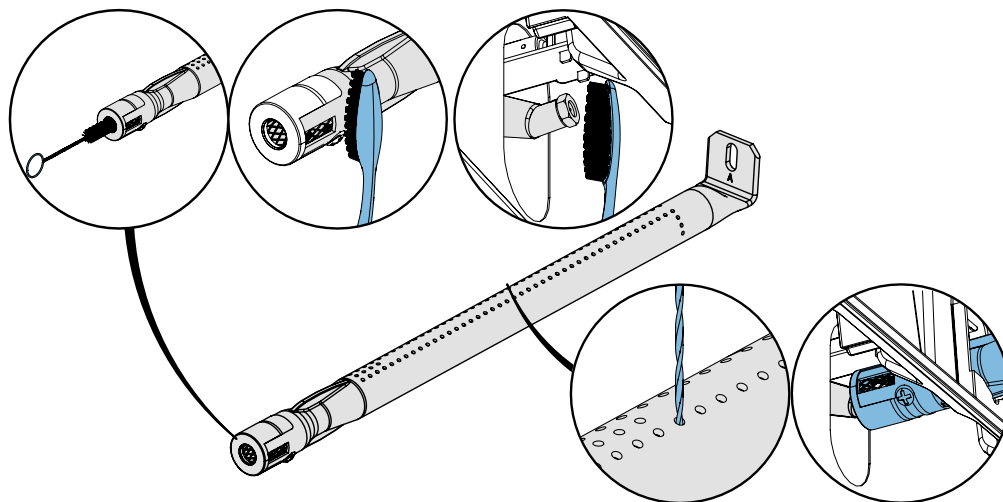

Fig. 9
1. Remove the screw (s) that attaches the burner to the back wall of the grill. Slide the burner back and upwards to remove. **(Fig.9)**